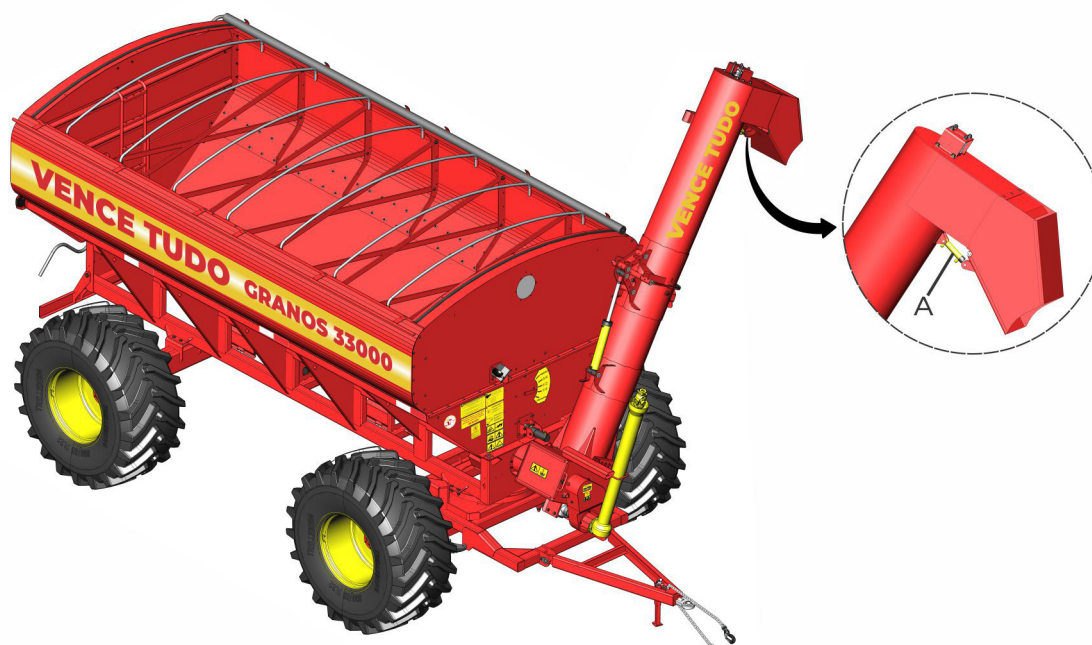

fig. 14
Throughout the process of unloading the grain from your grain cart, it is allowed to move the steering nozzle, by means of a hydraulic cylinder (A) (fig. 14), thus allowing a better accommodation of the load on the truck.